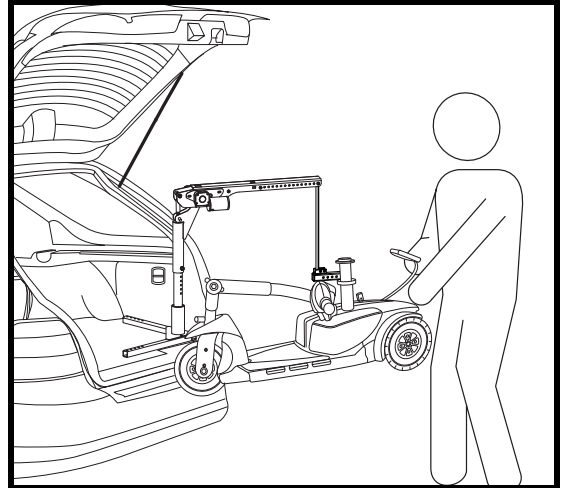

Figure 9. Lifting the Mobility Product
9. Once the mobility product is raised high enough to fit into the vehicle, stop the lift. **See figure 9.**